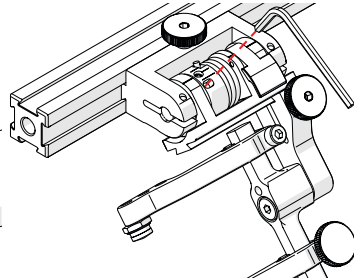

Fig. 40 - Unlatched position
3. Insert the short arm of a 3 mm hex wrench into the 3 mm slot (Fig. 40).